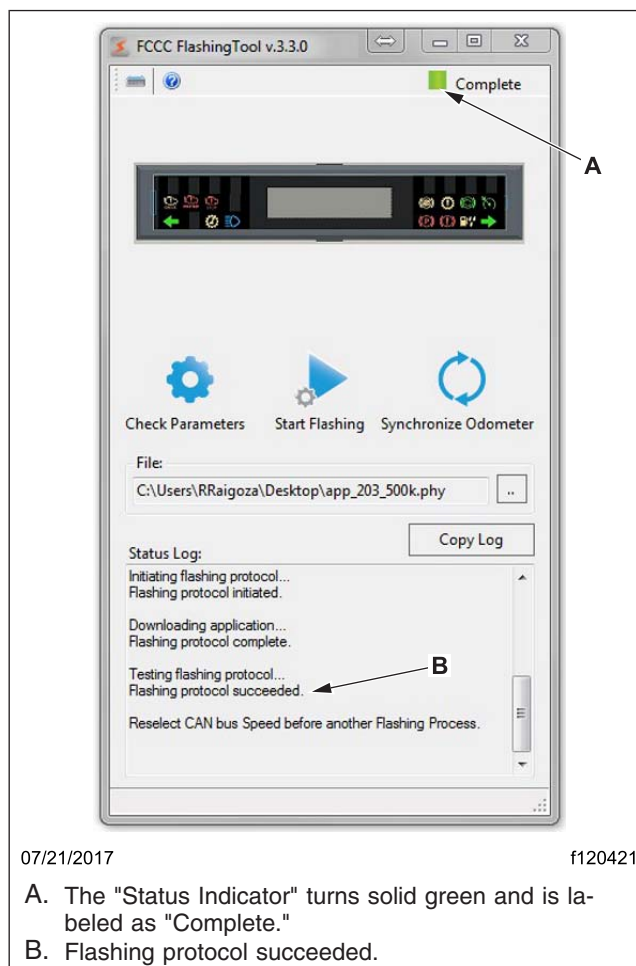

Fig. 15, Process Complete Screen
25. Once the reflash is finished, the LBCU shuts down. The "Status Indicator" turns solid green and is labeled as "Complete." See Fig. 15.